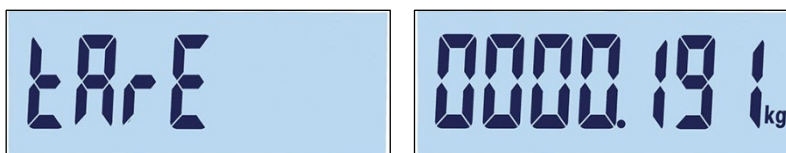

Figure 3-50: Positive Tolerance Label and Setting Screens
5. Finally, a tare value can be set for the record (Figure 3-50). Press  to confirm the record and exit the record editing function.